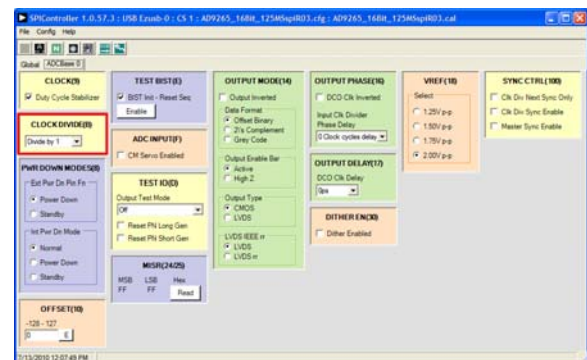

Figure 10. SPIController, CLOCK DIVIDE(B) Box
3. In the **ADCBASE 0** tab of the **SPIController** window, find the **CLOCK DIVIDE(B)** box (see Figure 10). If using the clock divider, use the drop-down box to select the correct clock divide ratio, if necessary. See the appropriate part data sheet; the AN-878 Application Note, *High Speed ADC SPI Control Software*; and the AN-877 Application Note, *Interfacing to High Speed ADCs via SPI*, for additional information.
- Note that other settings can be changed on the **ADCBASE 0** tab (see Figure 10). See the appropriate part data sheet; the AN-878 Application Note, High Speed ADC SPI Control Software; and the AN-877 Application Note, Interfacing to High Speed ADCs via SPI, for additional information on the available settings.